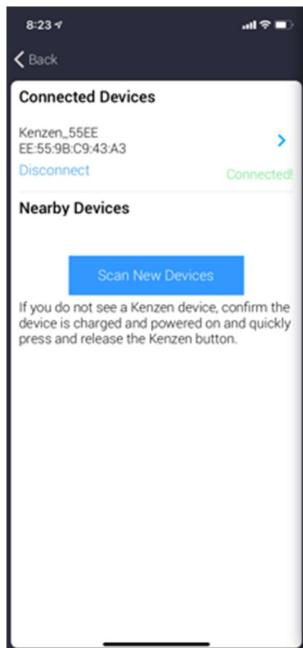

Figure 46: Device Information
4. Record the unique 12-digit MAC address listed below your Kenzen Device Name (Figure 46).